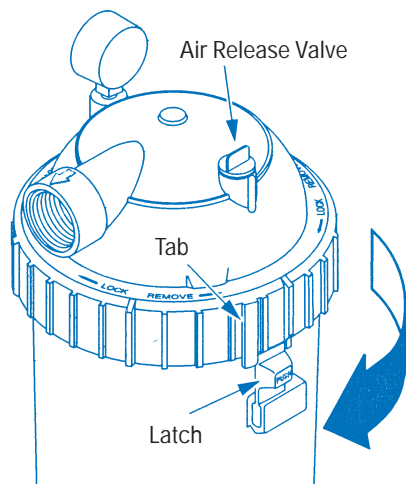

Figure 2
1. Securely lock the Posi-Ring™ in place by rotating it CLOCKWISE until it »clicks« past the safety latch (see Figure 2). Stop turning as soon as the ring clicks past the latch. The ring may feel slightly loose, but it will tighten up when pump is on and filter is under pressure.
- C. Rotate the Posi-Ring™ clockwise until it locks behind the safety latch (see Figure 2).